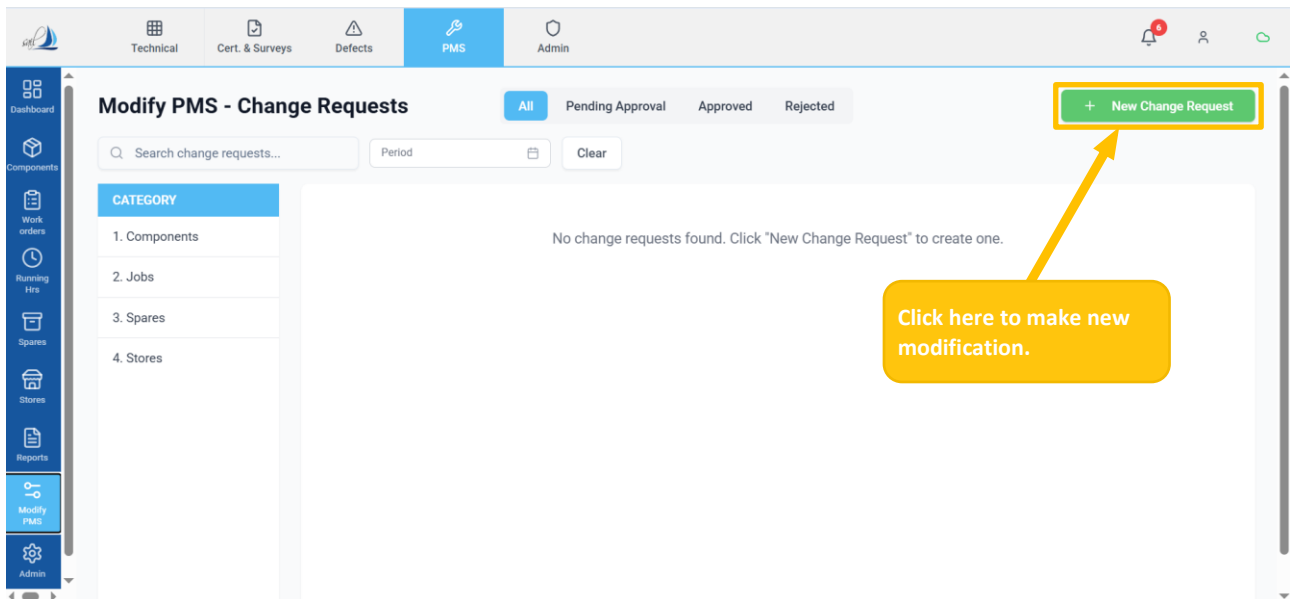

Figure 70
- Click the '+ New Change Request' button. (Ref Figure 70)
- Refer to the 'How to create a new change request for Components' and follow the same steps. (Ref Figure 70)